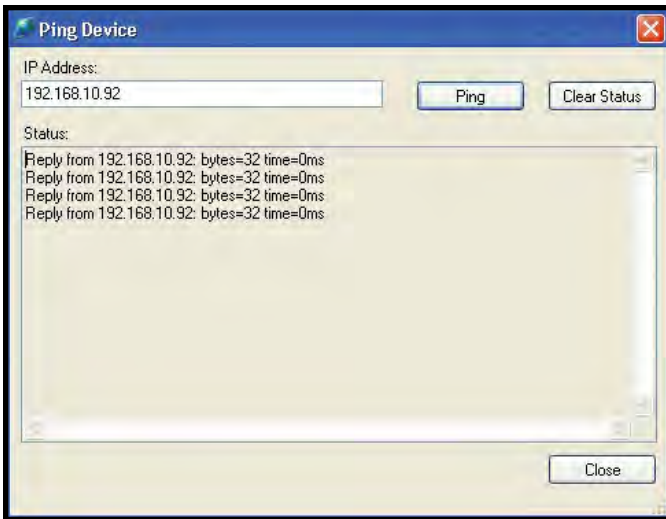

Figure 71. Ping Device window
- II. If the Ping is successful the "Ping Device" window will display four "Reply from" messages (see Figure 71). If you do not receive these four messages, proper communication was not established. Make sure that the Ethernet Board is correctly connected to your network and that the IP address is valid within the network. Click the "Close" button and exit DeviceInstaller. Continue to the "CONFIGURING THE SETTINGS FROM THE WEB BROWSER" procedure.